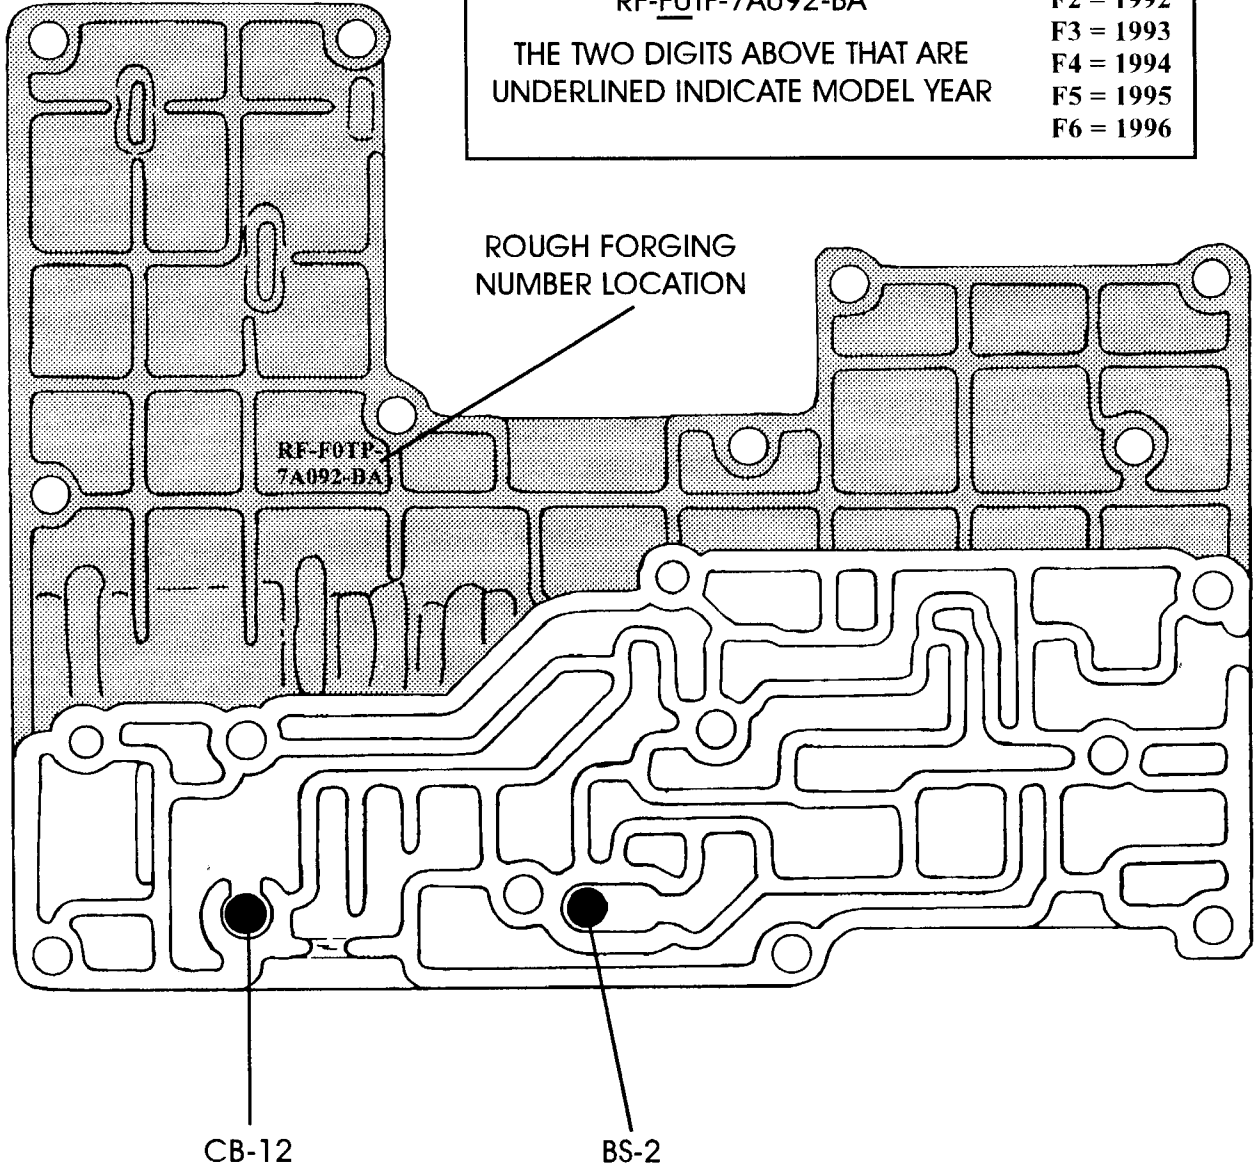
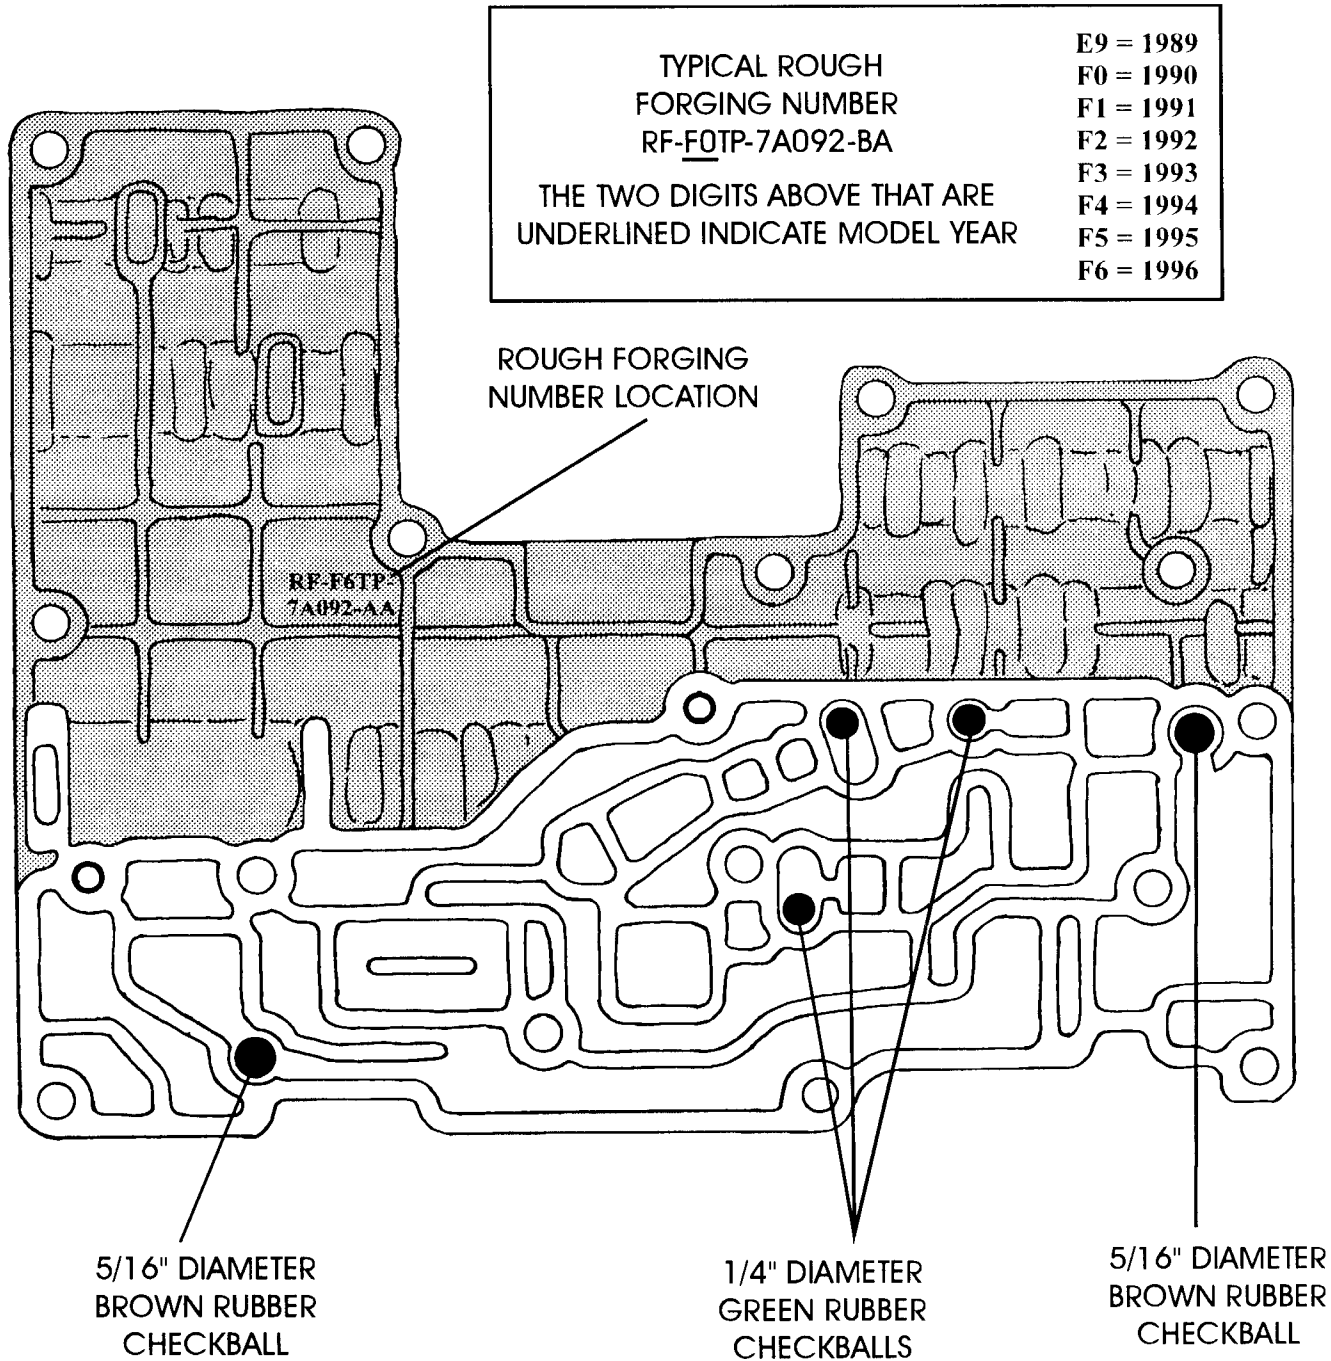

Figure 1
Figure 2
(1) **VALVE BODY CHECKBALL LOCATIONS** - Have remained the same for 1989 thru 1995 model years, with **TWO** 5/16" rubber checkballs, and their locations are shown in Figure 1. Beginning in the 1996 model year there are **FIVE** checkballs in the main valve body and their locations are shown in Figure 2. Notice that there are two 5/16" rubber balls and three 1/4" rubber balls. The 1/4" rubber balls are green in color (See Figure 2).
1989 Models Only - Can be identified by the differences in the worm track area at the 1-2 shift valve, as shown inside the circles in Figure 14. The best, and most accurate method to identify the valve body, is the rough forging number cast into the valve body in the location shown in Figures 1 and 2.
90-95 Models Only - Can be identified by the differences in the worm track area at the 1-2 shift valve, as shown inside the circles in Figure 14. The best, and most accurate method to identify the valve body, is the rough forging number cast into the valve body in the location shown in Figures 1 and 2.
1996-UP Models Only - Has a multitude of worm track location differences from the previous models, as shown in Figure 15. The best and most accurate method to identify the valve body, is the rough forging number cast into the valve body in location shown in Figures 1 and 2.
The 1996-Up models have a multitude of worm track location differences than the previous models, to accommodate the added valve body checkballs, as shown in Figure 17. The best, and most accurate method of identification is the rough forging number cast into the lower valve body using the formula in Figures 1 and 2.
NUMBER AS SHOWN IN FIGURES 1 AND 2*